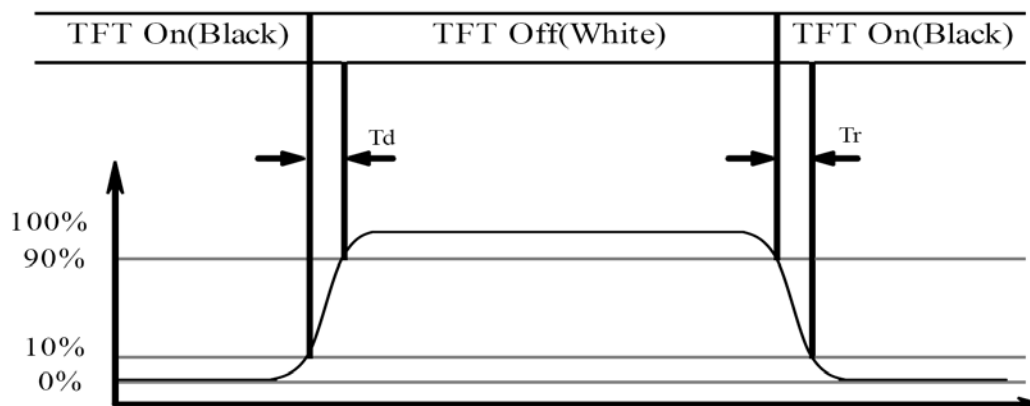

Figure 10
Note (4). The electro-optical response time measurements shall be made as Figure 10 by switching the "data" input signal ON and OFF. The times needed for the luminance to change from 10% to 90% is  $T_r$ , and 90% to 10% is  $T_d$ .